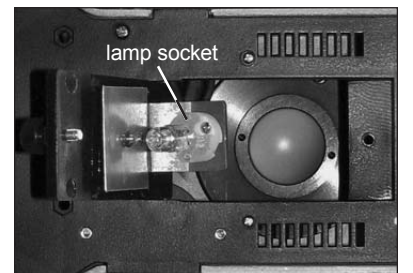

Figure 58
3. When replacing, insert the new lamp into the lamp socket (figure 58). Make sure that the pins on the lamp line up with the holes on the lamp socket. The pins should slide freely into the holes with only slight resistance - do not force.